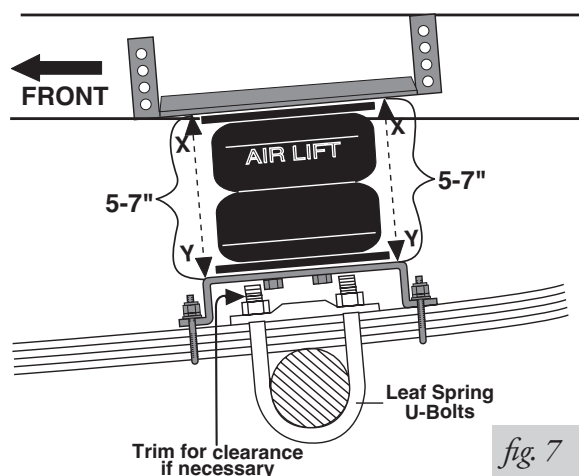

fig. 7
*Some vehicles may require the leaf spring U-bolts to be trimmed to allow the bottom bracket to fit properly (Fig. 7).*
1. Align the assembly vertically and horizontally (Fig. 7). There must be sufficient clearance between the air springs, the frame, and the tire and brake drum at the maximum inflated diameter (7.0"). Tighten the upper bracket and mounting bolts for the air spring to 20 lb.-ft.